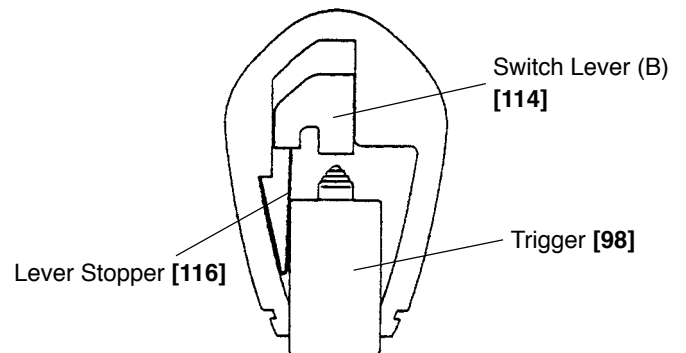

Fig. 11 (A - A)
When depressing the Trigger [98], the Lever Stopper [116] is deformed by the Trigger [98] and the end of the Lever Stopper [116] is positioned toward Switch Lever (B) [114] (Fig. 11).